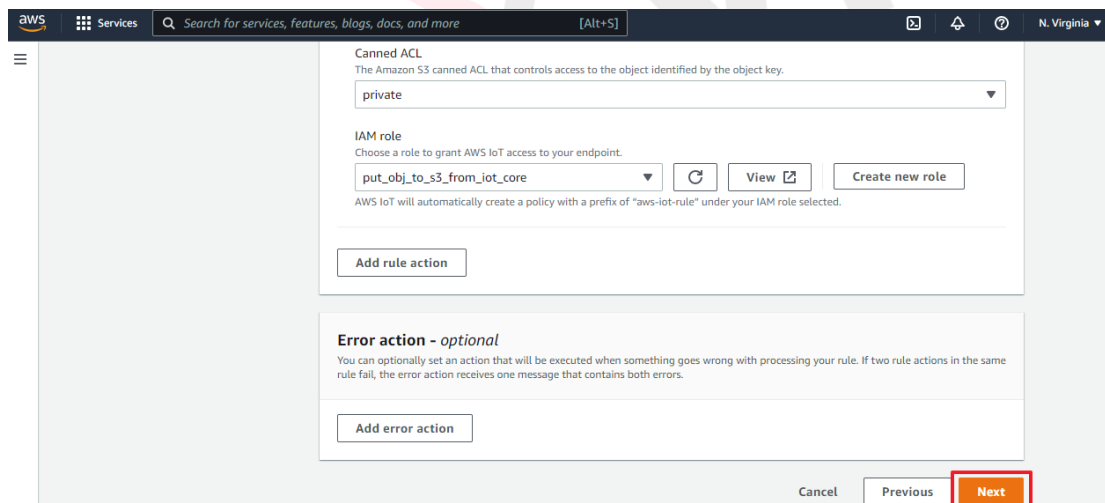

Figure 4-145 Check and finish creating Action
- After completing the Action, click on "Next" to proceed. The next step is to review the Rule, ensure everything is correct, and then click on "Create" to finalize the creation (as shown in Figure 4-145).